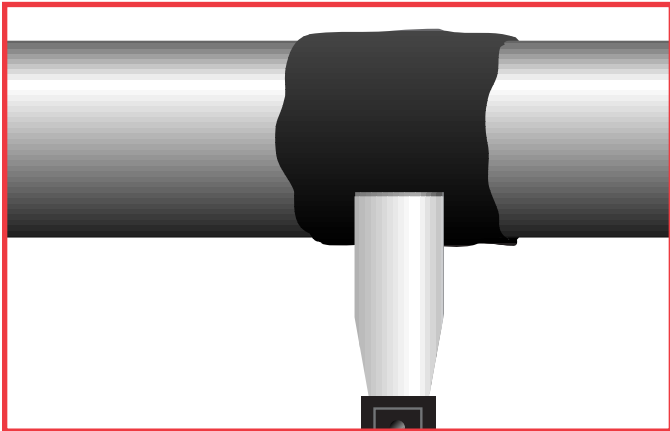

Figure 17. Fill the repair area with epoxy.
3. **Apply** a very thin layer of the recommended repair epoxy and force into the bottom of the threads. Turn the shaft at a very low speed and continue to apply more material by using a tool, such as a putty knife, that can be bent. (See figure 17)